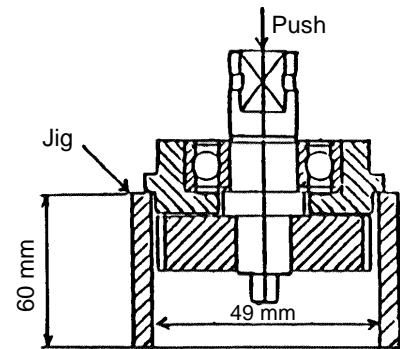

Fig. 11
- (4) Separate the Spindle Gear (4) from the Bearing Holder (5):
As illustrated in Fig. 11, support the Bearing Holder (5) with an appropriate tubular jig, and push down on the end of the Spindle to separate the Spindle Gear (4) from the Bearing Holder (5).
- (5) Remove the Armature (35):